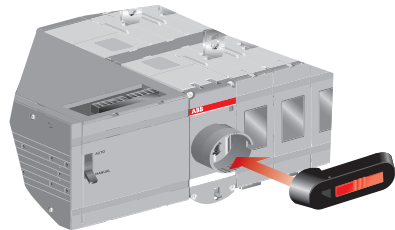

Figure 3.2 Insert the handle
2. Insert and press down the operating handle. (The handle can be inserted in any position: I, O, or II, as shown in Figure 3.2.)